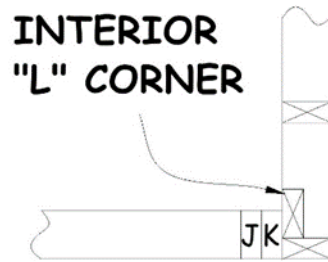

Figure 3-11. Interior L-Corner Configuration.
5. At corners and intersections, pay attention to whether a door will be built at that location. If so, make the room wall long and the door wall short, not the other way around. Include an “L-Corner” at the door end of the room wall and lay out the door plates so that the KJ pair abuts the L-Corner (see Figure 3-11). This allows for easy nailing through the “L” into the King stud. This configuration also provides a stronger
2. Recheck wall intersections to determine which wall end should abut the side of the other wall (which wall will be the “long” wall and which will be the “short” wall). This may be dictated by an adjoining door. (See Section 3.6.5 and Figure 3-11 above.)
- c. Where a door will be attached at the end of a bathroom or bedroom wall, mark the end of the wall for a 2x4 L-corner oriented to allow nailing through the L-corner into the King stud of the door (see Figure 3-11). This is similar to the 2x6 L-corners used in the exterior walls.
- a. The short wall next to the tub/shower will typically be 36” long. As usual, layout studs on 24” centers starting at the intersecting wall. At the opposite end, layout a 2x4-2x6 L-corner similar to that shown in Figure 3-11, with the 2x6 base of the L on the surface facing the tub. This will provide vertical blocking to which the shower flange can be attached, 31½” from the wall.